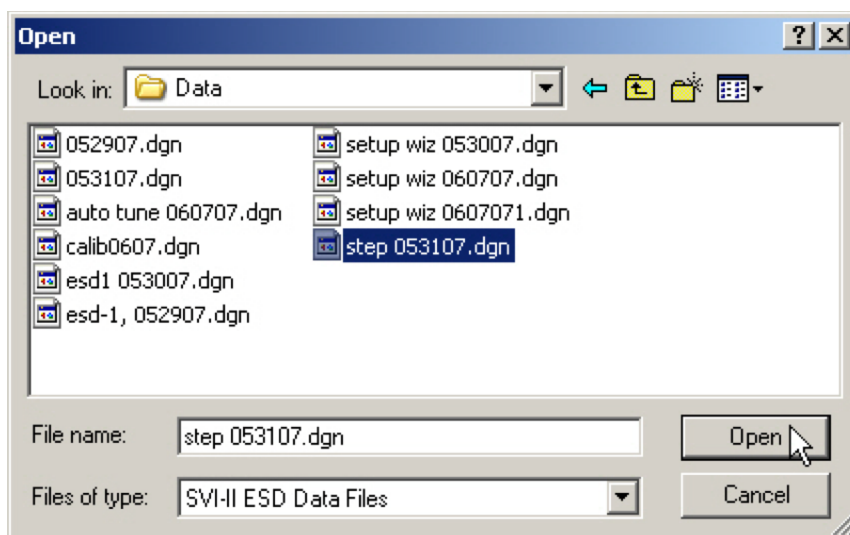

Figure 150 - Opening File for Additional Curve
2. Locate and select the file name and click **Open** (*Figure 150*).